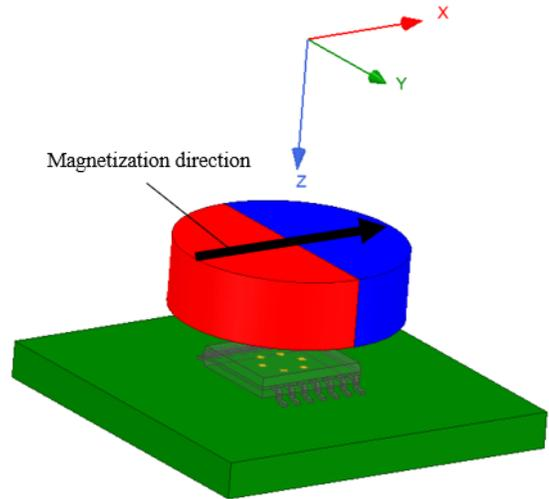

Figure 3: Isometric view of the A33022 and the cylinder magnet with diametrical magnetization
- Two-pole ring, cylinder, or block magnet with diametrical magnetization (Figure 3). The typical magnetic field observed by these channels is presented in the Input Magnetic Flux Density Definitions section.